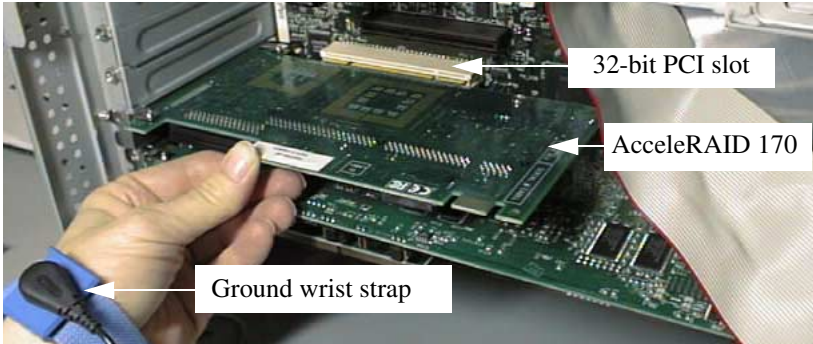

Figure 4. Plugging the AcceleRAID 170 into a PCI Slot
1. With the power off, plug the AcceleRAID 170 controller into an available 32-bit PCI slot (see Figure 4); the 32-bit slot is short.